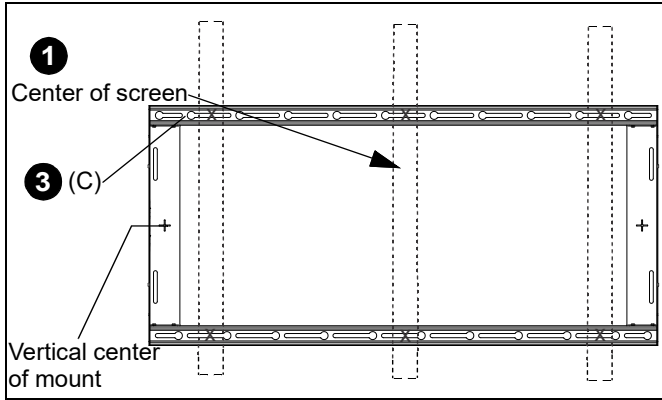

Figure 2
3. Line up the slots on rail assembly (C) with the two or three studs previously identified. (See Figure 2)